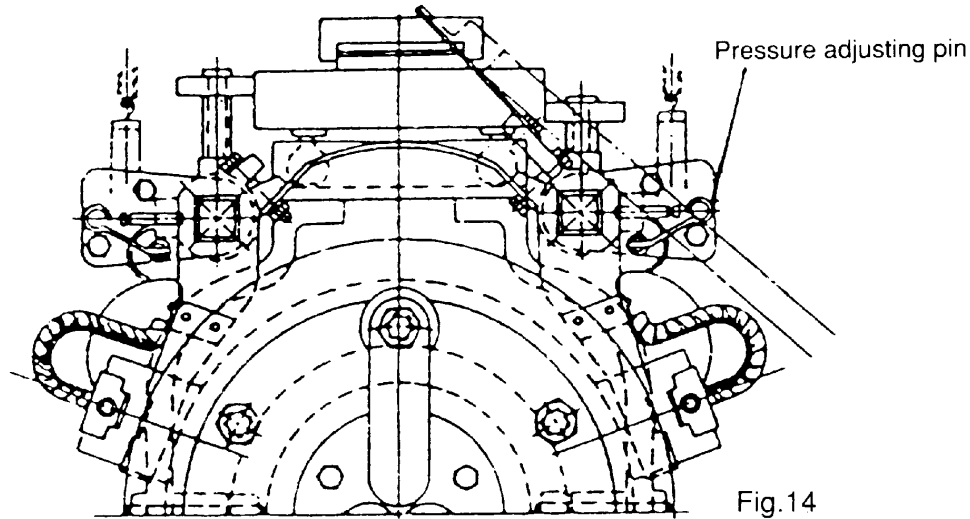

Fig.14
- The brush pressure may be reduced after use, so it is necessary to re-adjust. For adjustment, please turn adjusting screw, pressure adjusting pin or pressure adjusting plate as shown in Fig. 14 to obtain the correct tension ($=0.23 \times$ brush cross sectional area in cm²) $\pm 10\%$ kg.